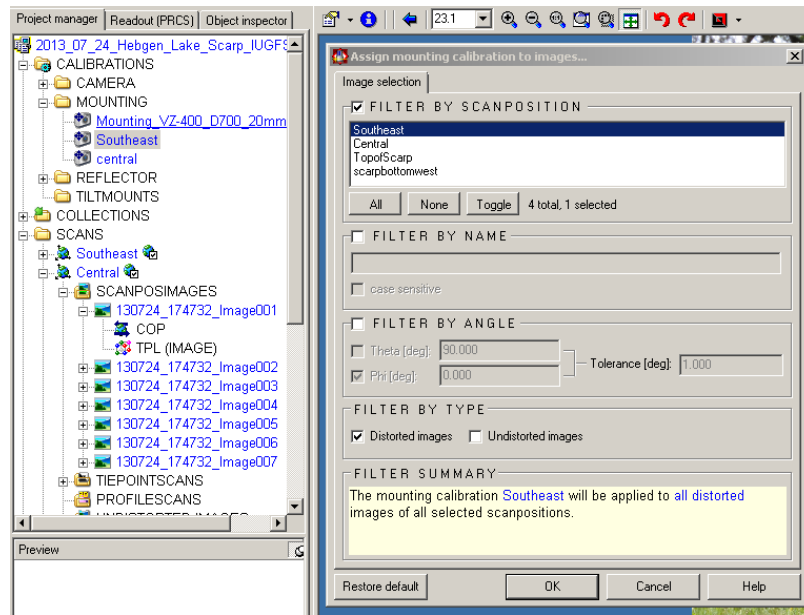

Figure 5. Choose the one scan position you are working on.
- 7.4. *Assign to Scan Images*: right click on the renamed mounting file and select “Assign to Scan Images”. A window will appear (Fig 5), select “Filter By Scan Position” and only select the Scan Position that you are working on. Click “OK” and the window will disappear.